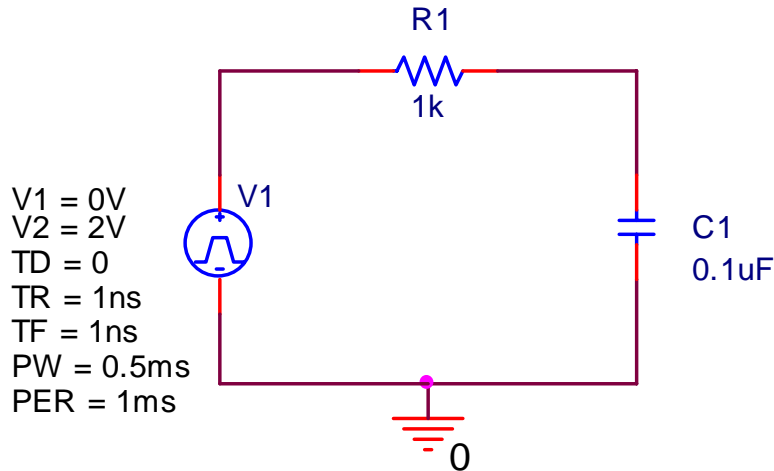

Figure 7: Circuit #6
Build the circuit below shown in Figure 7 in PSPICE, and then complete the subsequent steps.
- (1) Simulate the above circuit in PSPICE from 0-3 ms, save the waveform of v_C , and add it to your prelab report.
- (2) The capacitor and resistor in Figure 7 forms one first-order RC circuit. What is the time constant τ for this RL circuit?
- (3) Consider one period of stimulus signal shown in Figure 7. When the voltage rises from 0V to 2V and it holds more than 5 times of τ , the waveform of v_C can be treated as step response. Calculate the step response of the circuit shown in Figure 7 and compare it with the simulated waveform from 0-0.5 ms. What is the initial voltage and what is the final voltage? Measure the time constant from the PSPICE simulation result and compare it with the calculated result in step (2)
- (4) When the voltage V1 drops from 2V to 0V, the waveform of v_C can be treated as the natural response with the initial condition determined by the end of waveform obtained in 3). Calculate the natural response of the circuit and compare it with the simulated waveform from 0.5-1.0 ms. What is the initial voltage and what is the final voltage used in your calculation?
Use the circuit constructed in problem 4 and change the stimulation source to the one shown in Figure 7.